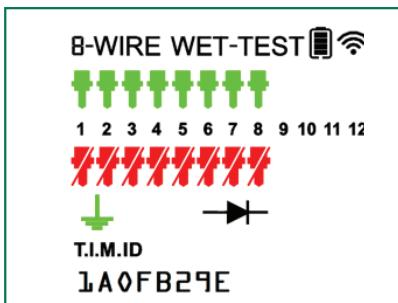
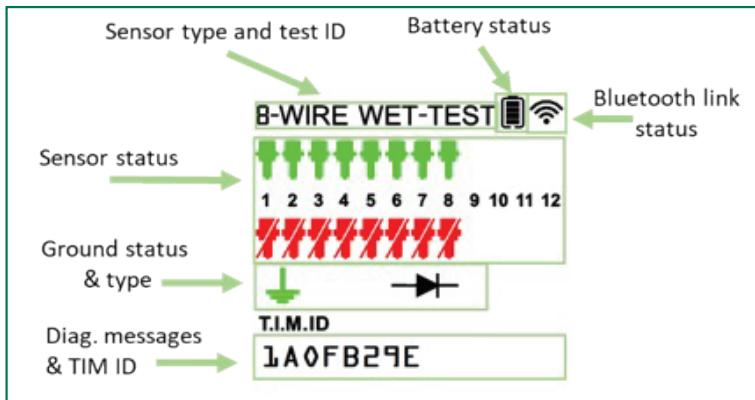

Figure 3.1-2
Figure 3.1-3 Elements of the LCD Display
As figure 3.1-2 shows, the test results will be shown on the LCD screen. The featured elements of the LCD screen are identified in figure 3.1-3. Up to twelve (12) 5-wire or eight (8) 2-wire OFP sensors can be detected. The status of each sensor will be shown as green (good and dry) or red (faulty, shorted, or wet). The type of sensor scheme shows on the top line of the display as either “2-wire” or “5-wire.”